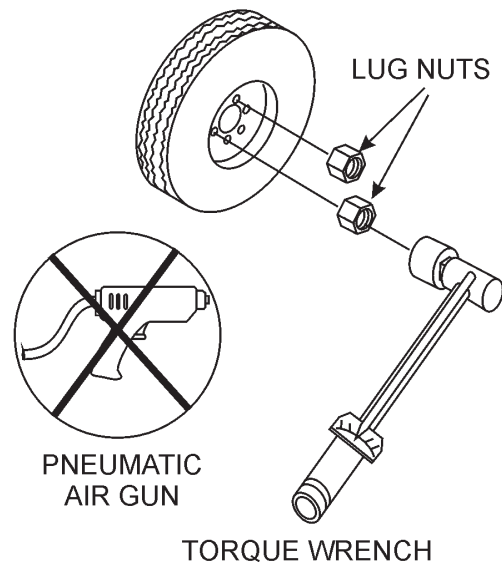

Figure 36. Wheel Lug Nuts Tightening Sequence
2. Torque all lug nuts in sequence. See Figure 36. **DO NOT** torque the wheel lug nuts all the way down. Tighten each lug nut in 3 separate passes as defined by Table 10.